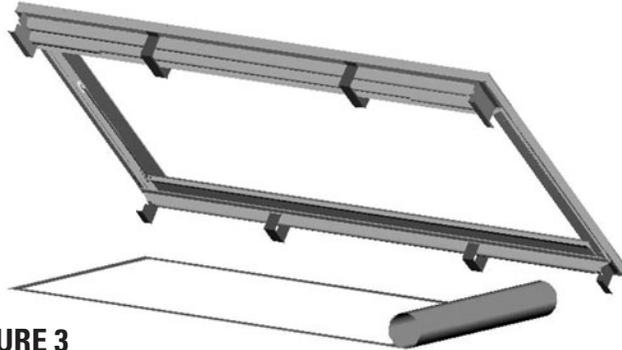

FIGURE 3
3. Allow the paper to unroll between backside of the screen surface and floor. See Figure 3.